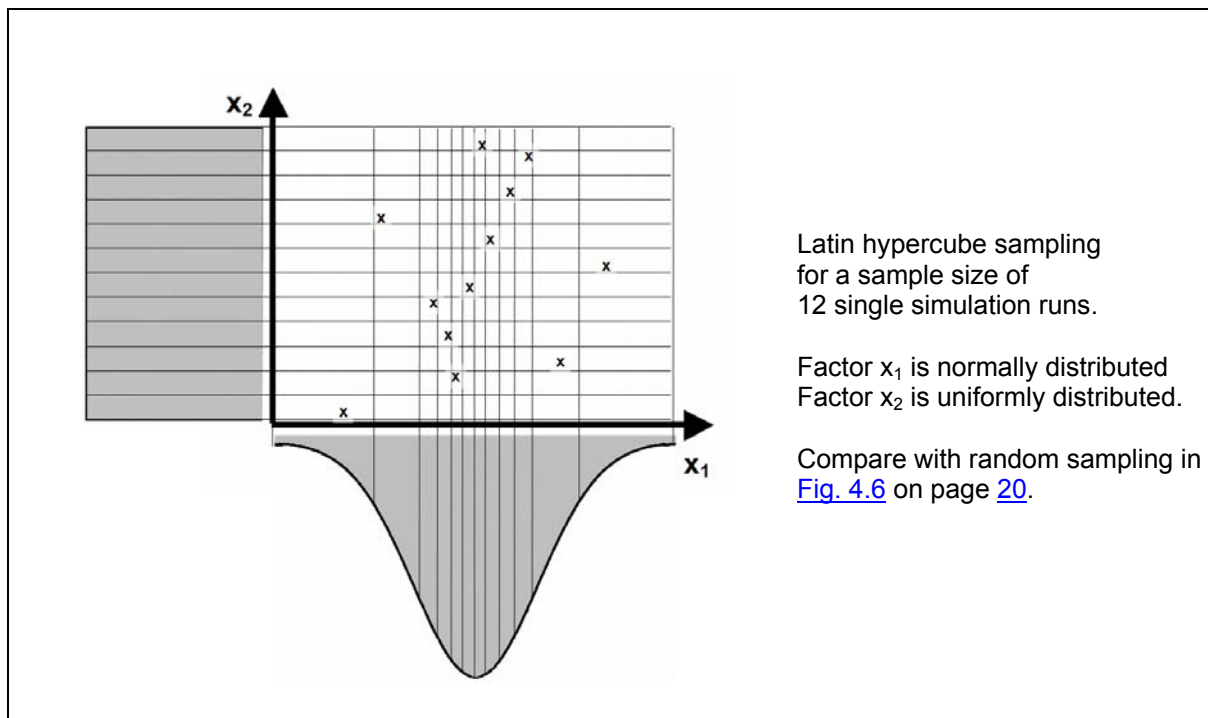

Fig. 6.1 Monte Carlo analysis: Latin hypercube sampling
- In random sampling, there is no assurance that sampling points will cover all regions of the selected distribution. With Latin hypercube sampling LHS (McKay *et al.*, 1979) this shortcoming is reduced: The sampling range of the factor is divided into <int_val> (from the sub-keyword 'runs') intervals of equal probability according to the selected distribution and from each interval exactly one sampling point is drawn. For more information on LHS check Fig. 6.1 below and see also Iman & Helton (1998) and Helton & Davis (2000).